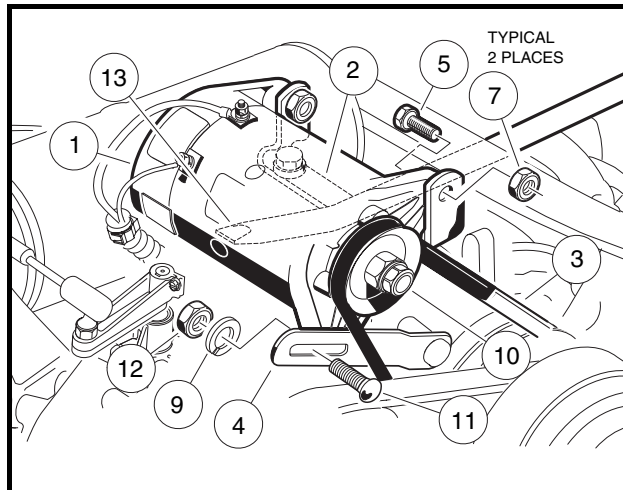
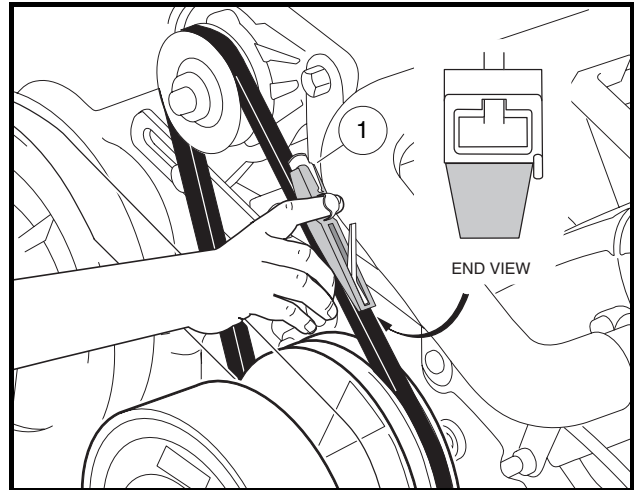

Figure 12-13 Starter/Generator Installation
Figure 12-14 Belt Tension Gauge
2. Install two 3/8-inch hex-head pivot bolts (5) into the mounting bracket with the heads of the bolts facing toward the driver-side of the vehicle. Position the starter/generator in the mounting bracket so that the bolts will go through the starter/generator before going through the bracket. Install a lock nut (7) onto each bolt. Tighten to finger tight (**Figure 12-13, Page 12-11**).
3. Install the adjustment bolt (11) through the adjusting bracket (4) and then through the starter/generator. Install a lock washer (9) and 5/16-inch nut (12) onto the end of the adjustment bolt (11). Tighten to finger tight (**Figure 12-13, Page 12-11**).
4. Install the belt (3), then tighten the mounting bolts. **See Belt Tension Adjustment on page 12-11.**
3. Make sure the two pivot bolts (5) on the mounting bracket are finger tight. The carriage bolt (11) and hex nut (12) are to be finger tight also (**Figure 12-13, Page 12-11**).
4. Push the starter/generator down so it is at the lowest point of its adjustment travel. With the starter/generator belt in place around the drive clutch pulley, install the starter/generator belt (3) around the pulley (10) on the end of the starter/generator.
5. Position a pry bar (13) between the top of the starter/generator mounting bracket (2) and the underside of the starter/generator by passing the pry bar under the exhaust header.
6. While holding the pry bar, measure the belt tension using a Krikit® gauge (1) (available at NAPA® Auto Parts stores), or equivalent. Proper tension for a new starter/generator belt should be 75 ft-lb (101.7 N·m) or 45 ft-lb (61 N·m) for an existing belt (**Figure 12-14, Page 12-11**).
7. While maintaining the tension, tighten the adjustment nut (12) to 12 ft-lb (16.3 N·m). Tighten the two pivot bolts (5) and hex nuts (7) to 23 ft-lb (31.2 N·m) (**Figure 12-13, Page 12-11**). **See following CAUTION.**